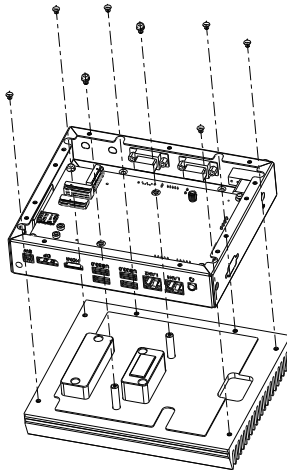

Figure 3-1-2
2. Remove the 6 screws from 3 sides and 2 screws from the motherboard, as shown in Figure 3-1-2.